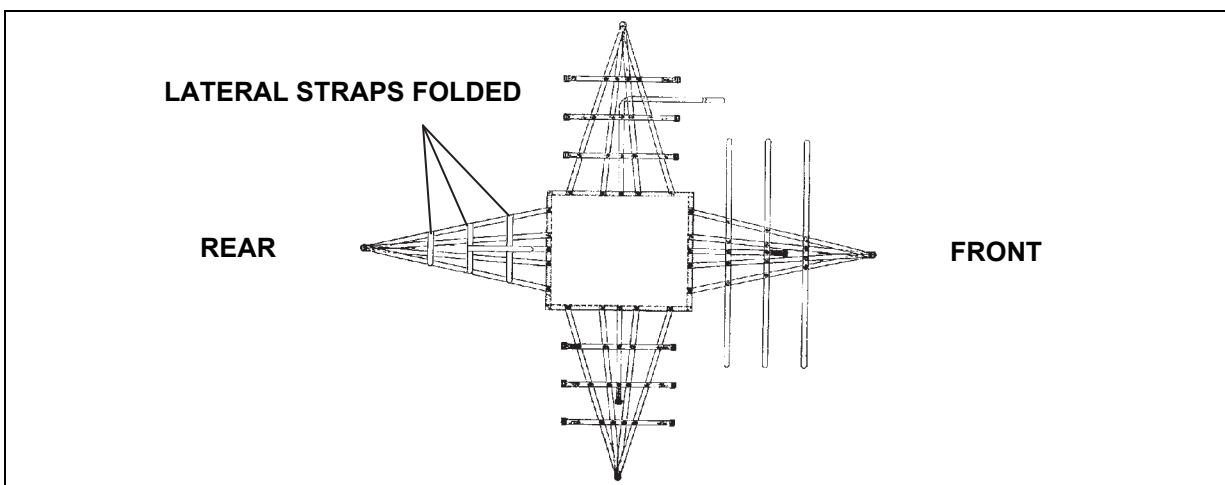

Figure 8-18. First A-22 Sling Assembly Positioned
8-4. The stretch A-22 cargo bag is two adjustable cotton duck/nylon cloth and nylon webbing containers consisting of two sling assemblies, two covers, and six suspension webs (figure 8-17). The bag is used to deliver loads that are longer than the standard A-22 load but shorter than a double A-22. The cover is optional. The stretch A-22 has a weight capacity of 900 - 2,200 pounds. Inspect the container for serviceability in accordance with table 2-1, Preventive Maintenance Checks and Services, in TM 10-1670-298-20&P. The best way to learn about this carrying device is to rig and derig it several times. The following steps and figures 8-18 through 8-22 explain how to rig a double A-22 cargo bag.
- Fold and place all lateral straps on top of the rear support web (figure 8-18).